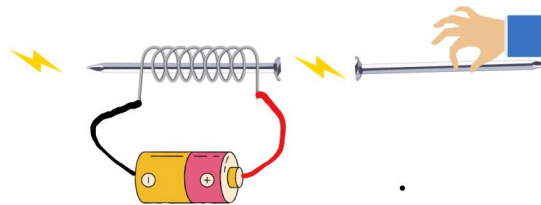

Fig. 1.59 Iron nail is placed near the system
Step 3. Now, bring any magnetic material such as a piece of iron near the nail, a force of attraction can be observed. Figure 1.59 illustrates that another iron nail is near the system.